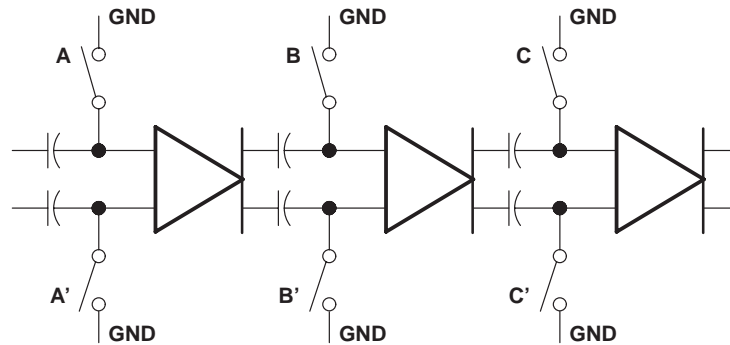

Figure 1. Comparator Offset Null
1. The IN+ and IN– inputs are internally shorted together so that the converter input is zero. A coarse comparator offset calibration is performed by storing the offset voltages of the interconnecting comparator stages on the coupling capacitors that connect these stages (see Figure 1). The storage of offset voltages is accomplished by closing all switches and then opening switches A and A', then switches B and B', and then C and C'. This process continues until all interconnecting stages of the comparator are calibrated. After this action, some of the comparator offset remains uncalibrated.